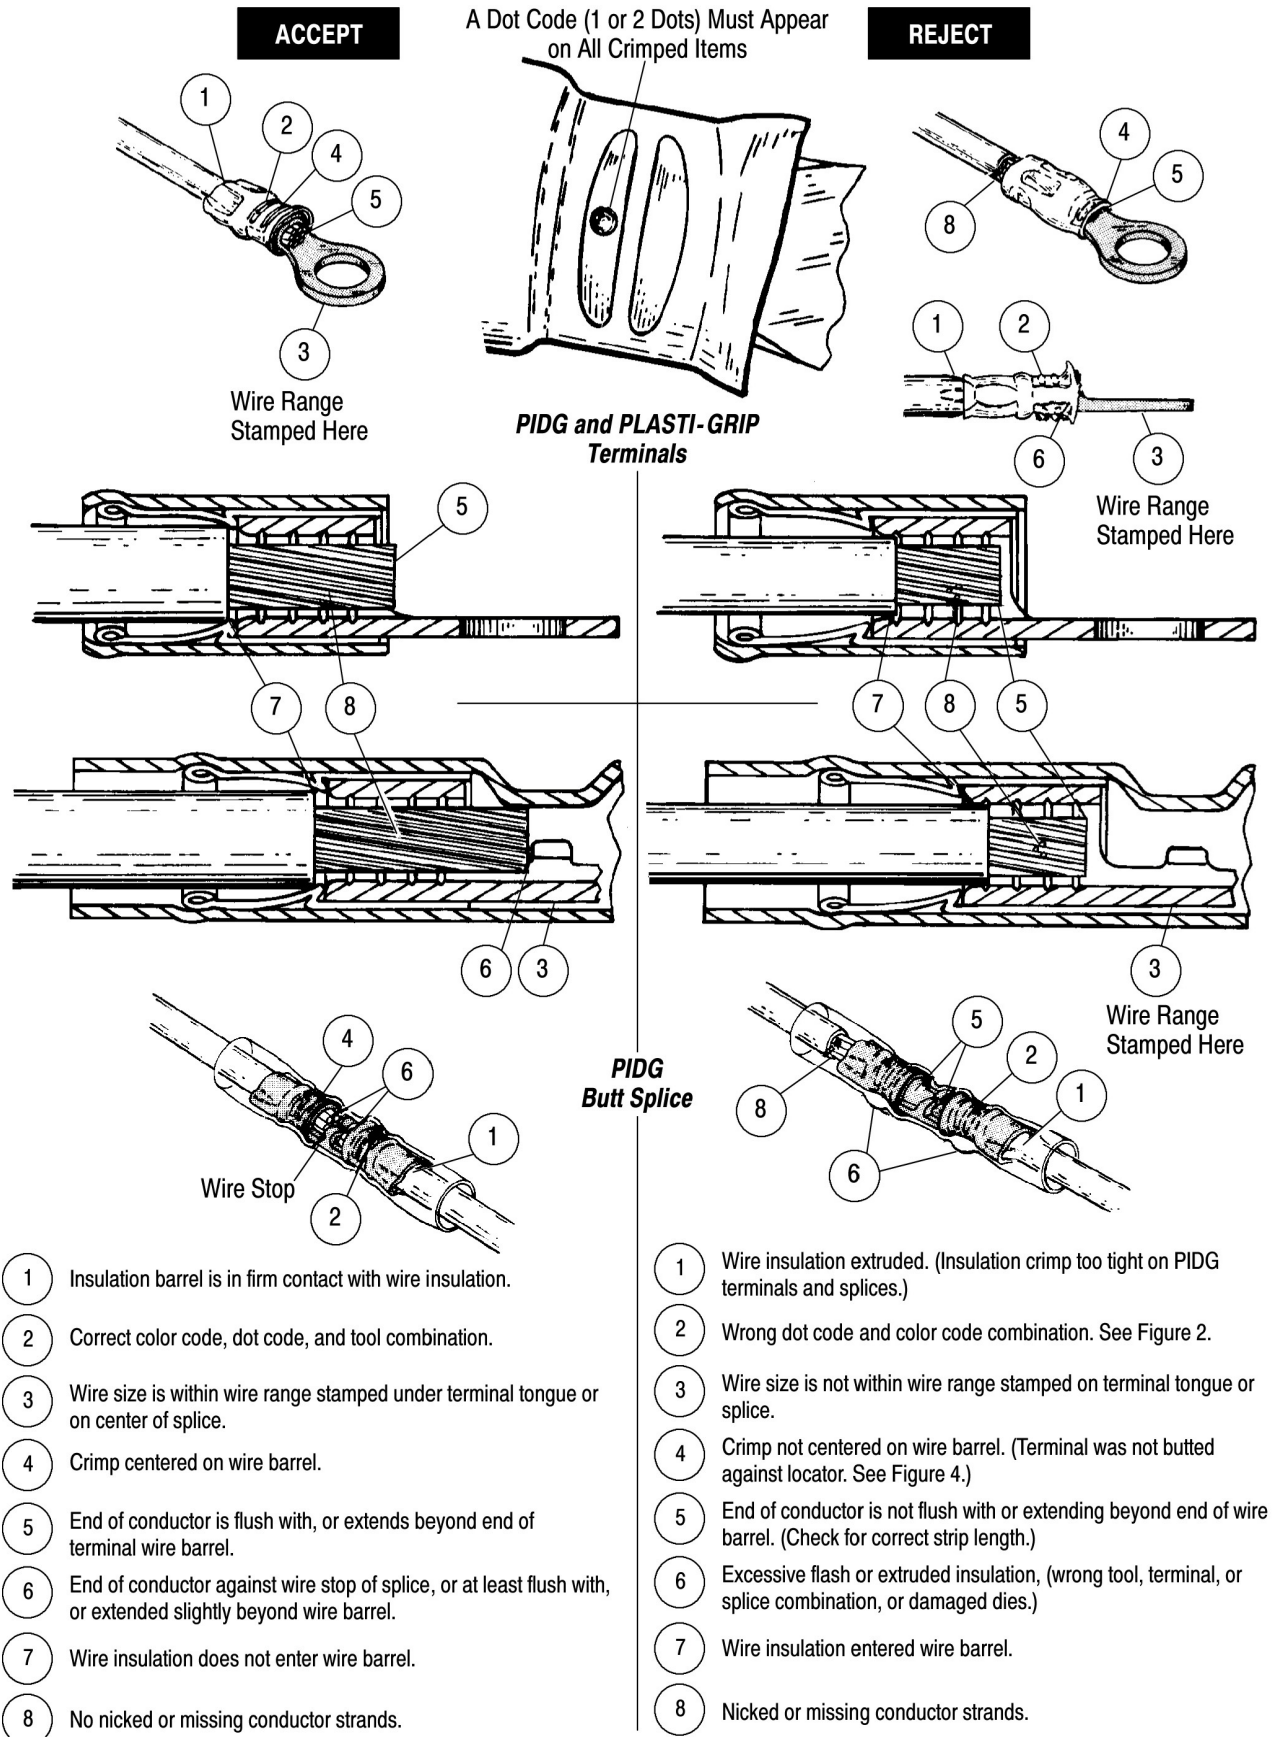
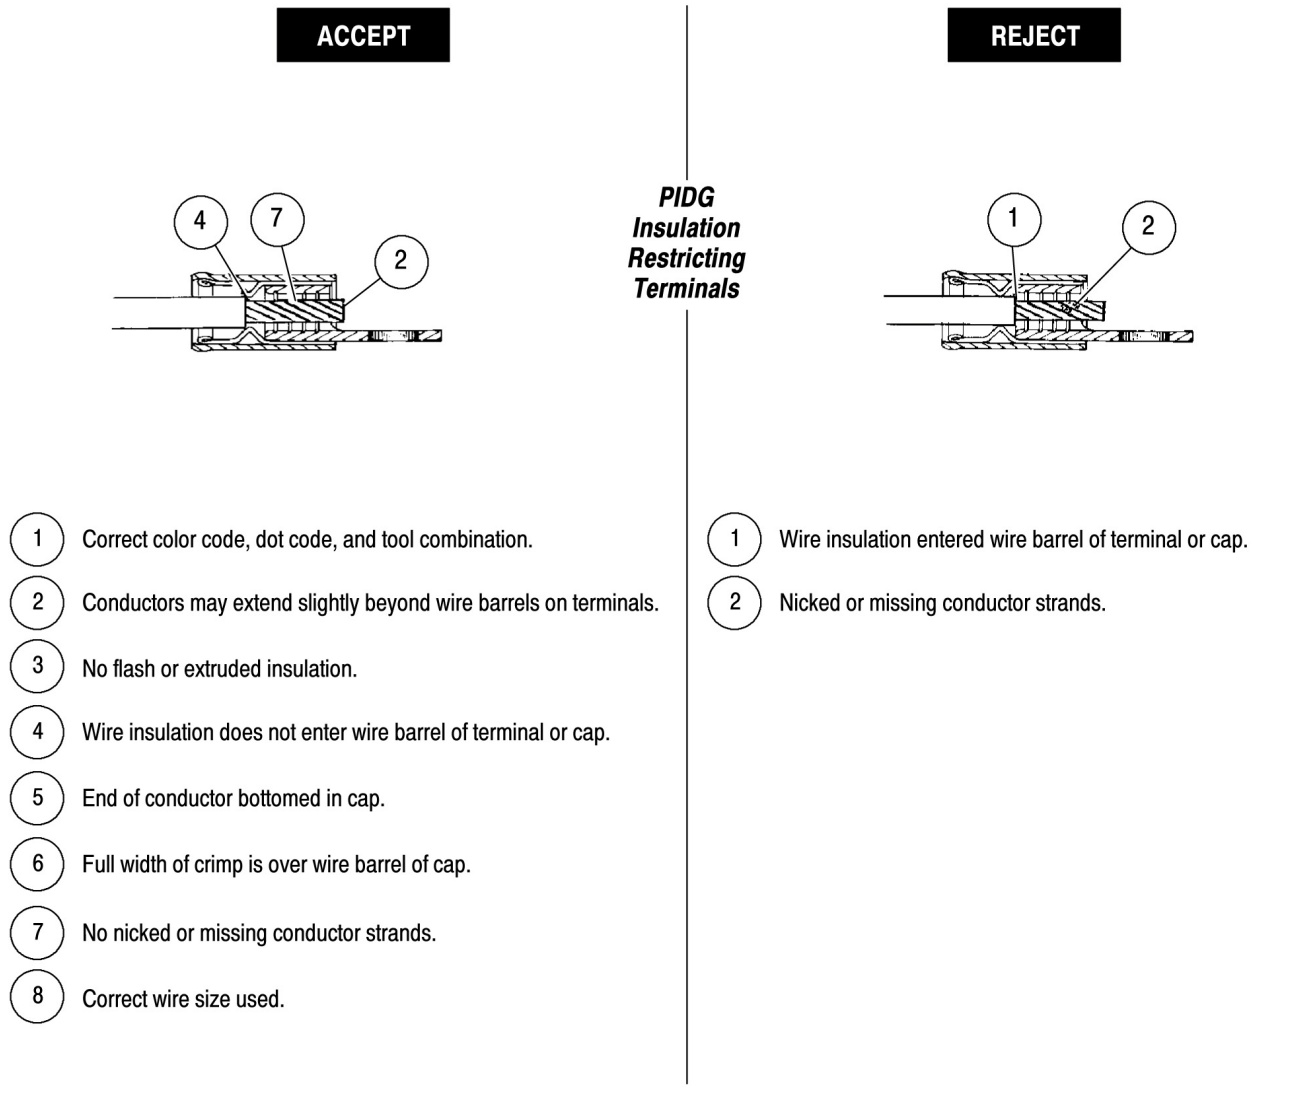

Figure 5
Figure 6
6. Cycle the SDE 1600 Power Unit and hold momentarily to complete the crimp. The terminal or splice should be as shown in Figure 5 or Figure 6